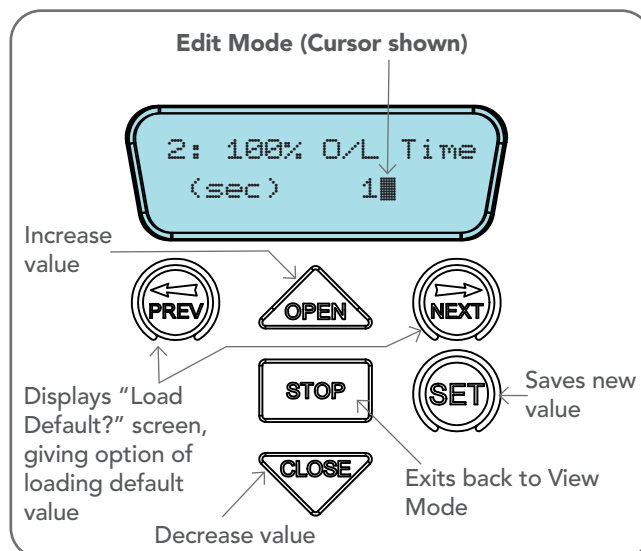

Fig B.2
- Press OPEN/CLOSE to enter Edit mode and change parameter setting **(Fig B.2)**.